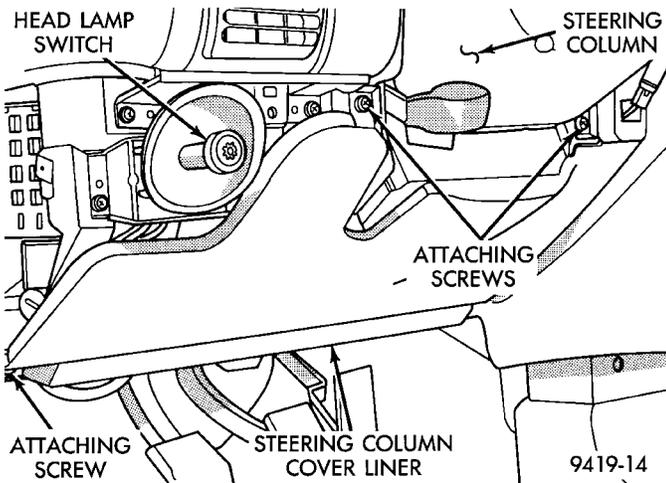

Fig. 7 Steering Column Cover Liner
- (4) Remove 3 screws (Fig. 7) attaching the steering column cover liner to the instrument panel. Remove the liner from the lower instrument panel.
(10) Install the lower instrument panel steering column cover liner onto lower instrument panel. Install and securely tighten the 3 liner to instrument panel attaching screws (Fig. 7).